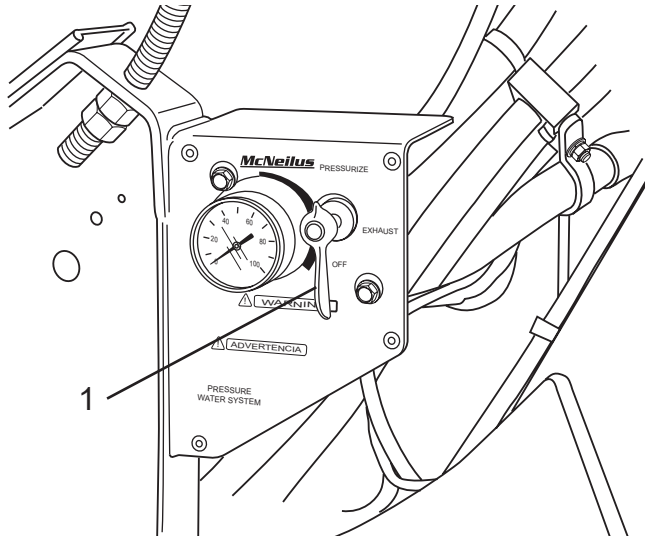

Figure 101
2. After pressure in the water tank has been completely exhausted, turn the air pressure control valve to the OFF position (Figure 101, Item 1).